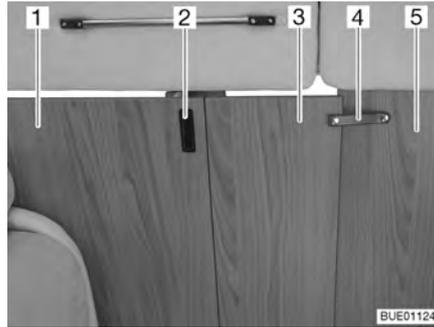

Fig. 41 Driver's cabin partition, closed
- Pull the driver's cabin partition (Fig. 41,1) completely inwards at the handle (Fig. 41,2).
- Secure the folding part of the driver's cabin partition (Fig. 41,3) with the securing strap (Fig. 41,4) to the left-hand partition wall (Fig. 41,5).